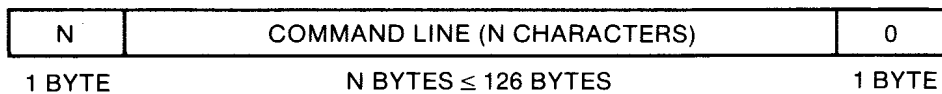

Figure 4-4. Command Line Format in the DMA Buffer
The Chain To Program Function terminates the current program and executes the command line stored in the current DMA buffer. The format of the command line consists of a one-byte character count (N), the command line characters, and a null byte as shown in Figure 4-4. The character count contains the number of characters in the command line. The count must be no more than 126 characters. If an error occurs, you receive one of the CCP errors described in Appendix E.